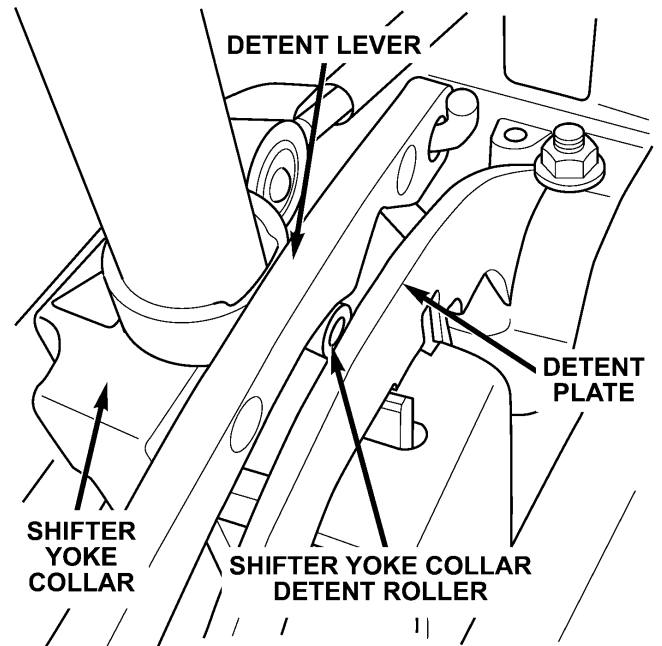

Figure 6
15. Verify that the detent lever is positioned (centered) directly over the shifter yoke collar detent roller (Figure 6).